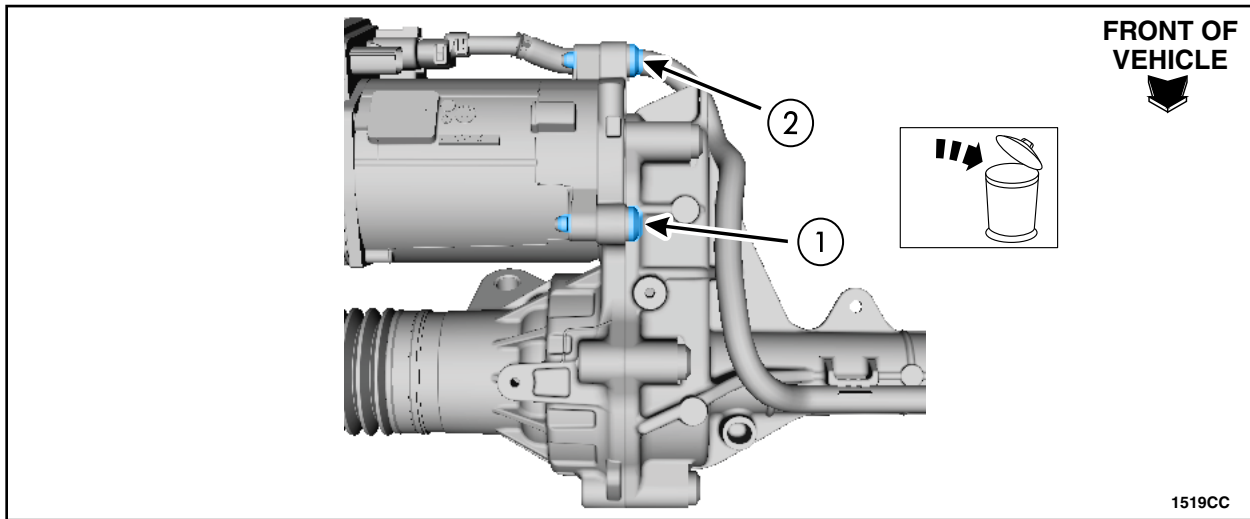

FIGURE 9
1. Working from the front of the subframe, first replace steering gear motor bolt one. Then replace bolt two. See Figures 9 and 10.